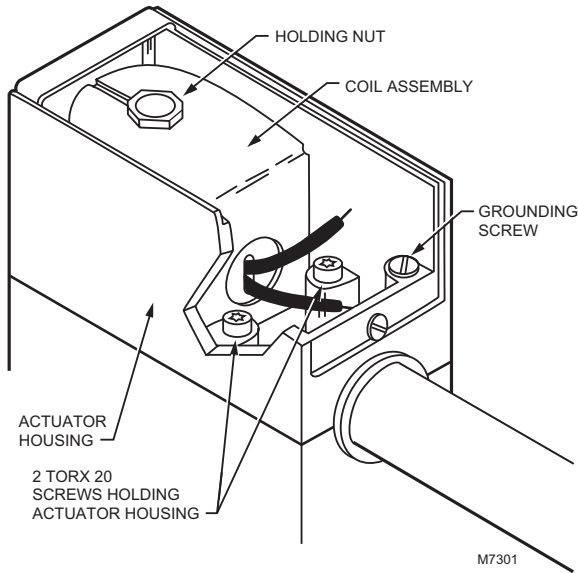

Fig. 13. Internal view of actuator housing.
4. Remove the two torx screws inside the actuator housing (Fig. 13) and lift off the housing.
5. Remove the holding nut from the top of the coil assembly (Fig. 13).
14. Replace the holding nut on top of the coil assembly (Fig. 13) and tighten it securely.
15. Replace the actuator housing and tighten the two torx screws holding it in place (Fig. 13).